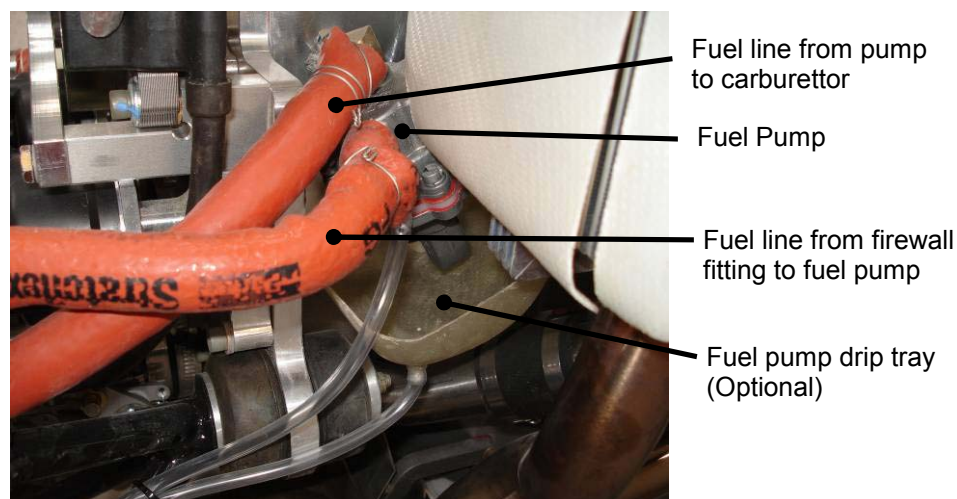

Figure 25. Mechanical Fuel Pump
- Some airworthiness categories also require an additional drip tray be fitted to the fuel pump. This optional tray is shown in Figure 25.
- All hoses forward of the firewall require fire resistant sheathing (visible as an orange covering on the fuel lines in Figure 25 above). Note that the sheathing should be extended past the hose clamp. The ends of the sheath must be held in place using safety wire to prevent the sheathing moving and exposing the fuel line.